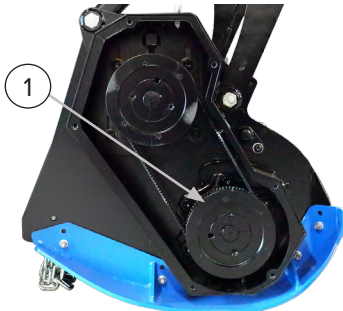

Figure 3
2. Apply reflective tape to the rotor pulley [Figure 3, Item 1].